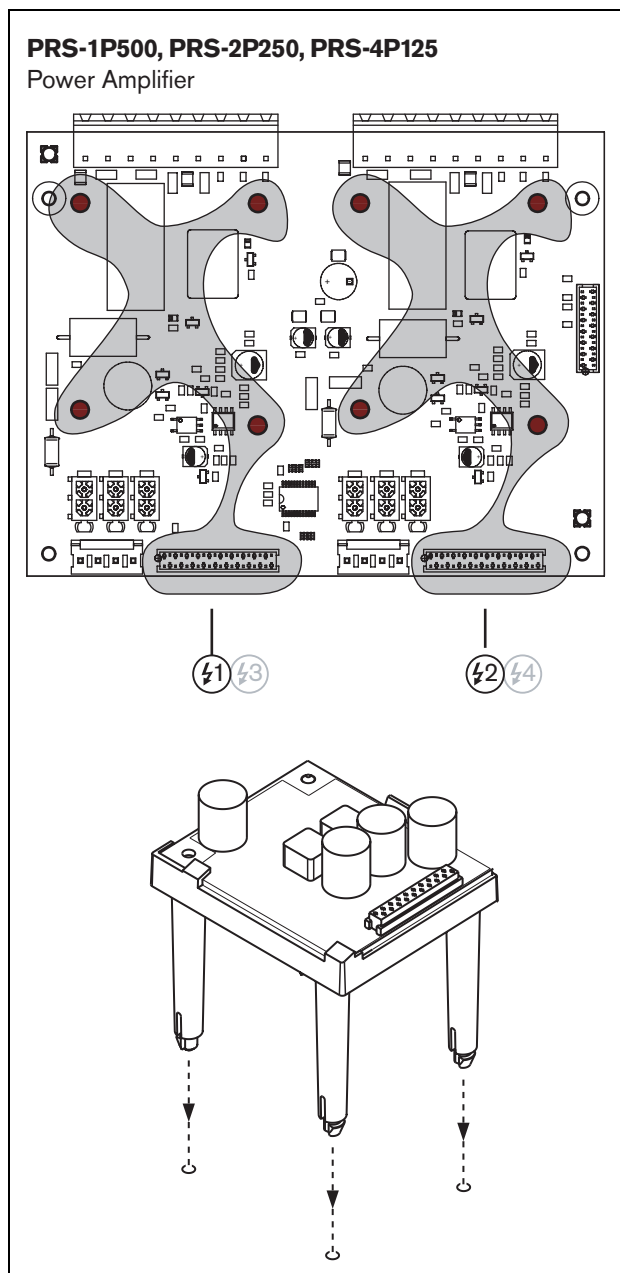

figure 13.4: Installation
- 1 Remove the lid from the power amplifier and locate the output board (see figure 13.4).
- 2 Snap the supervision control board on the 'table' bracket (see figure 13.4).